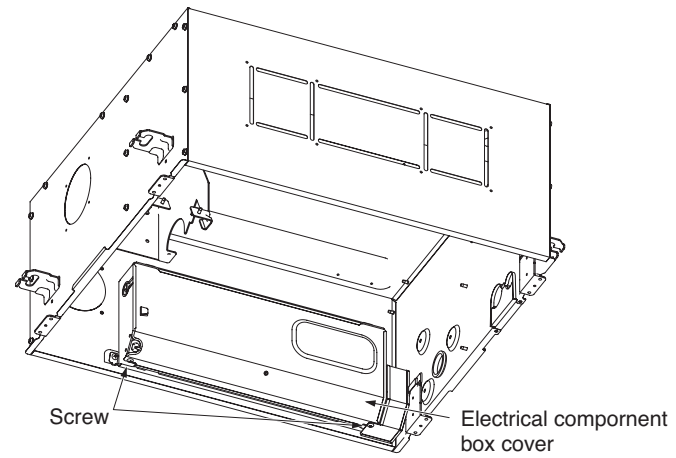

Fig. 3-57
- (1) Loosen the 2 screws on the electrical component box lid, and remove the lid. (Fig. 3-57)